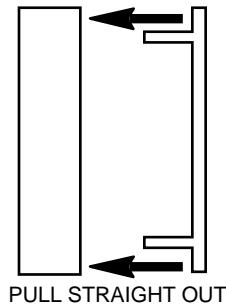

Figure 2. Removing thermostat from subbase
- Remove the packing material from the thermostat. Place the fingers of one hand on the center top and bottom portion of the thermostat. Grasp the subbase in the other hand on the top and bottom center, and gently pull straight out (see Fig. 2). The thermostat has pin and socket connectors. Forcing or prying on the thermostat will cause damage to the unit.